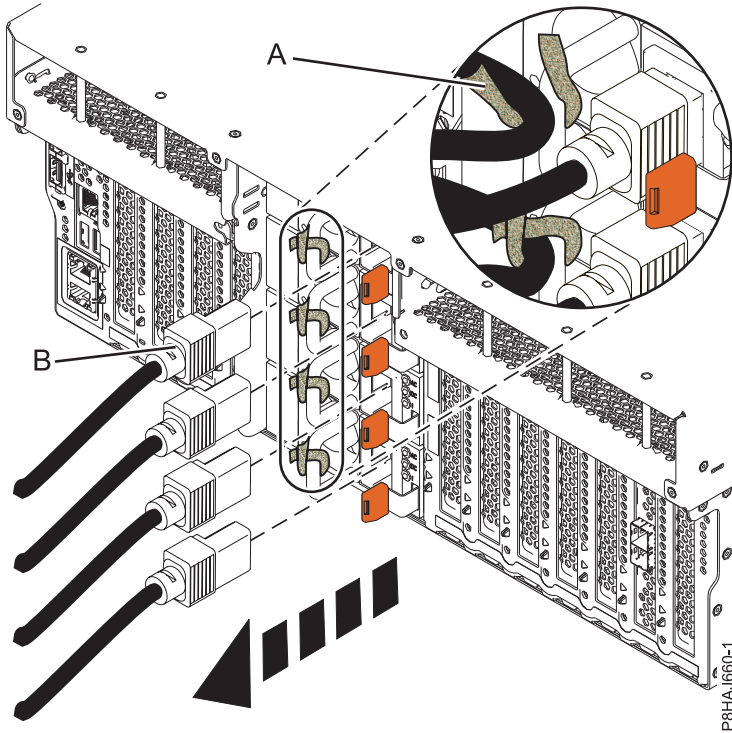
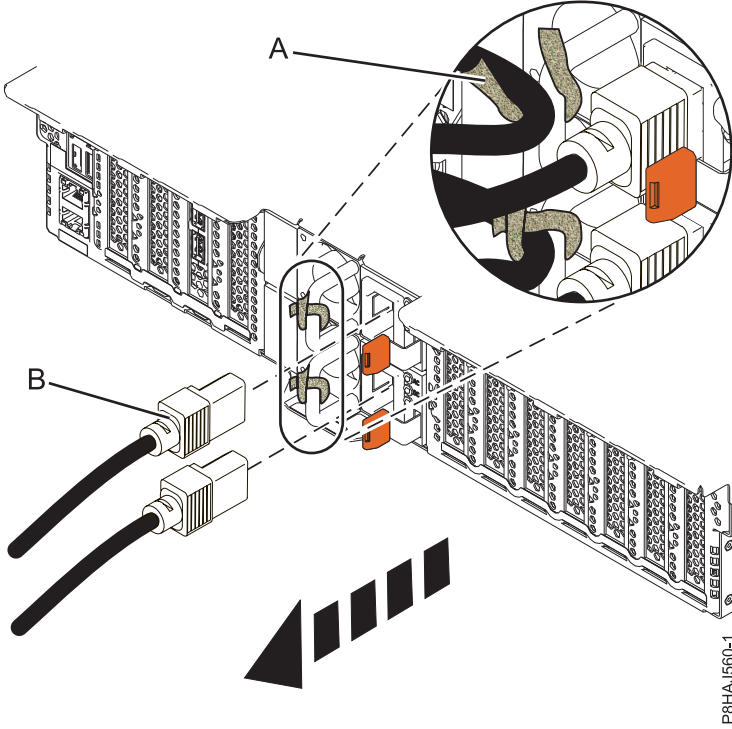
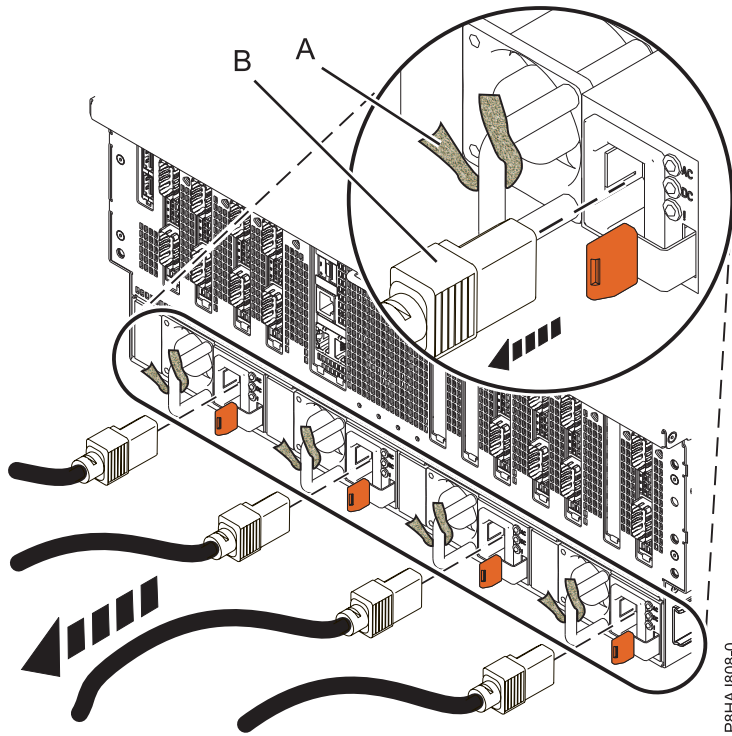

Figure 43. Removing the power cords from an 8247-42L, 8286-41A, or 8286-42A system
Figure 44. Removing the power cords from an 5148-21L, 5148-22L, 8247-21L, 8247-22L, 8284-21A, or 8284-22A system
Figure 45. Removing the power cords from an 8408-44E or 8408-E8E system
3. Disconnect the power cords (B) from the system unit. See Figure 43 on page 56, Figure 44 on page 56, or Figure 45 on page 57 or depending on the type of your system.